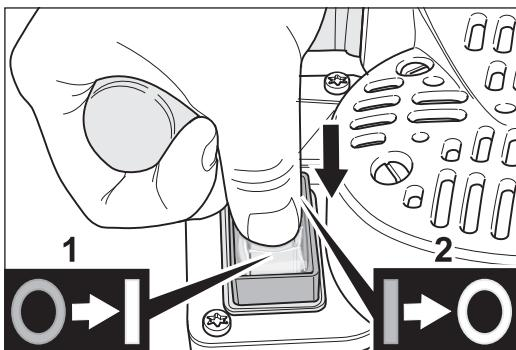

Fig. 10 Start (1) and switch off (2) the machine using the rocker switch.
2 Flip the rocker switch to "I" (fig. 10, 1). The switch button will snap into the place and the motor will be started.
- 2 Flip the rocker switch to "0" (fig. 10, 2). The switch button will snap into the place and the motor will be switched off.**